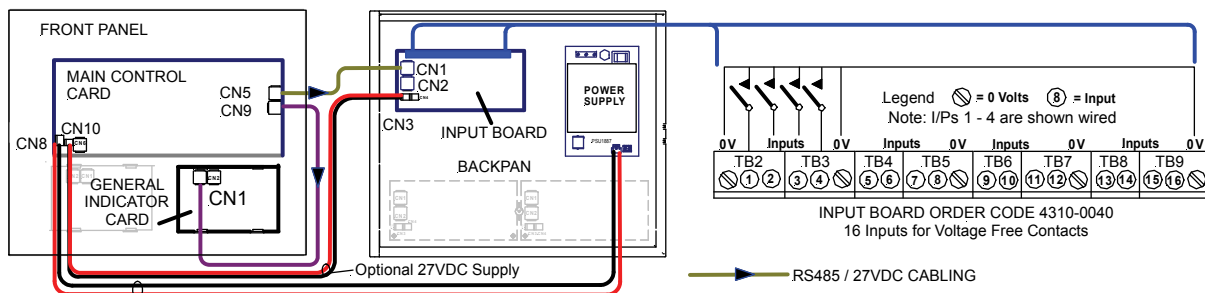

Figure 2: Typical Input Board FACP Internal Cabling and Input Wiring Configuration
2. Mount the board on suitably spaced backpan standoffs using the 4 x M3 by 8mm screws. See Figure 2 for available mounting locations
TB1/8: Voltage free contacts as shown in Figure 2